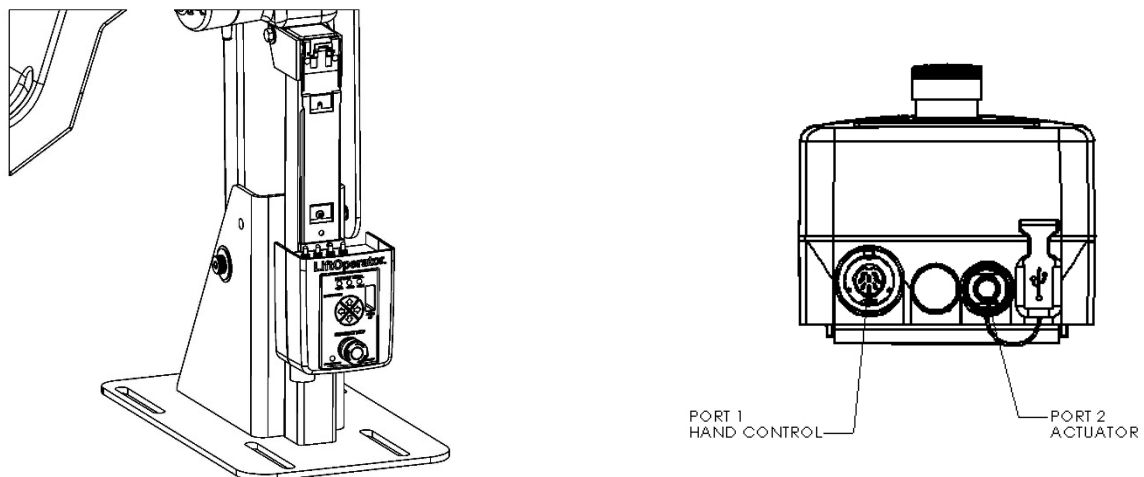

Figure 17
23. Remove the Hand Control from accessory carton and unwrap. Insert Hand Control plug into large socket on the LiftOperator Control Box shown in Figure 17. Next, install the actuator plug into the socket shown in Figure 17. Route actuator cable from the motor as shown in Figure 17.